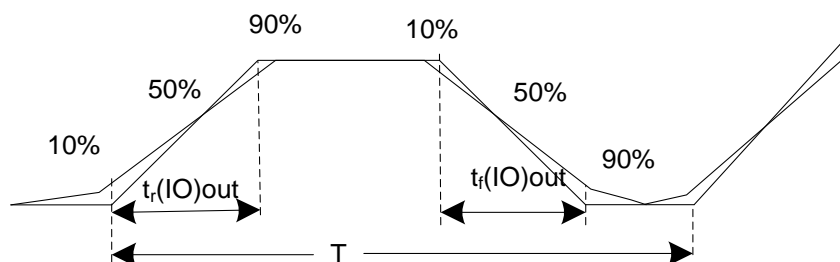

Figure 6.9 I/O AC characteristics definition
3. The maximum frequency is defined in Figure 6.9.